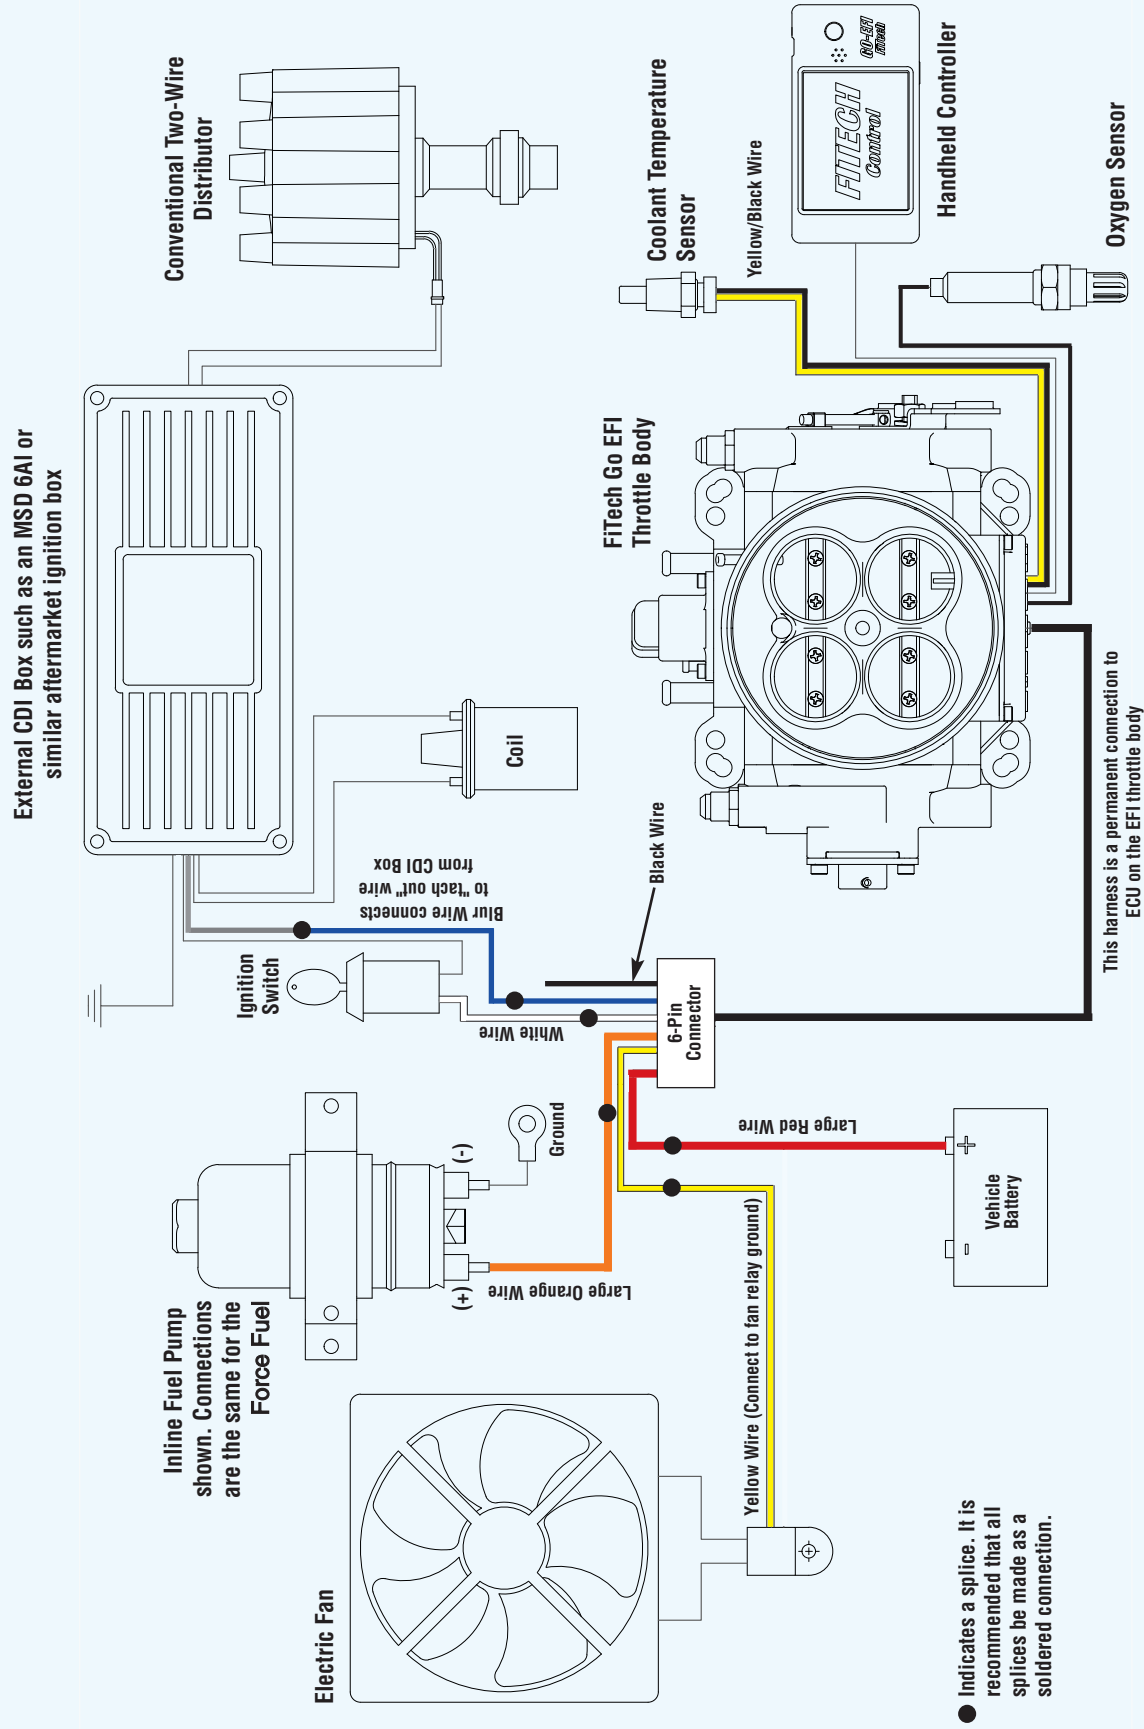

**Figure 10**
**Selecting the correct wiring schematic:** Review Figures 10 through 11 and select the schematic that suits your particular application. Figure 10 shows how to connect a ready-to-run distributor. Figure 11 is for an HEI distributor. Figure 11 is also for a system with an external CDI box.